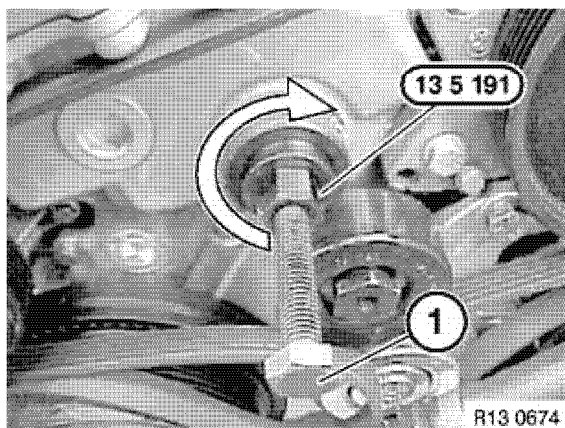

Figure 6-26
12. Thread special tool OEM No. 13 5 191 without jack screw (1, Figure 6-26) into sprocket by hand until firmly seated.
13. Thread jack screw (1, Figure 6-26) into special tool until firmly in contact with end of pump shaft.